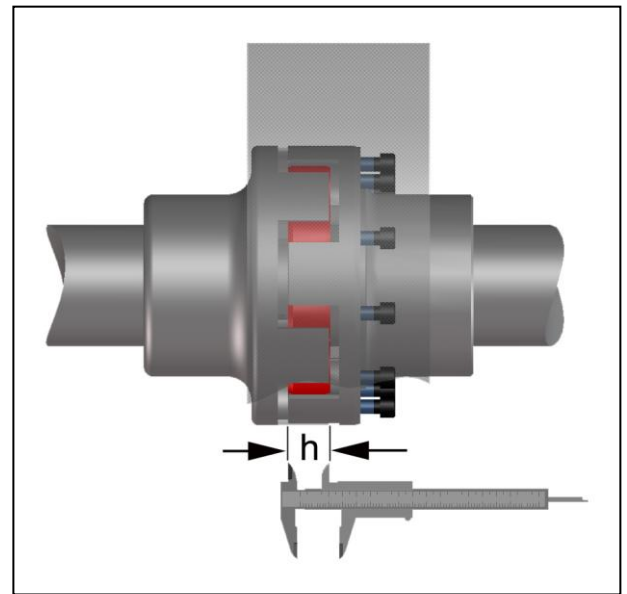

Fig. 8
- Measure the axial claw overlap  $h$  as shown in Fig. 8.